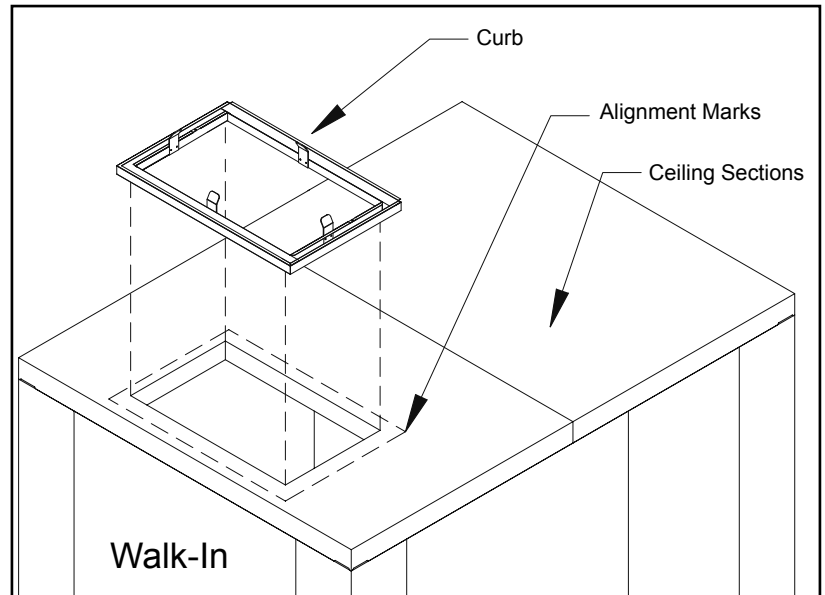

Figure 1
Carefully raise the entire refrigeration system and insert the projecting sleeve of the evaporator section into the opening of the walk-in wall. While supporting the system, lock it into position by turning the locks exactly as you did when locking the walk-in sections together. Make sure that the locks are positively engaged and insert the plug buttons into the lock access holes when finished. Refer to Figure 1.
No plumbing drain is required, under normal conditions, for indoor installations. A built-in hot gas vaporizer dissipates the condensate moisture automatically. In outdoor installations, the condensate should be plumbed to the nearest drain. Check local building codes. Outside drain lines must also be wrapped with a suitable heater wire if they are ever subjected to below freezing temperatures. Outdoor installations also require the attachment of the rain hood that will divert rainfall from the upper surface of the evaporator housing. See Figure 1 for an illustration.
2. Remove the paper from the gasket and position the curb, gasket side down, on the pencil line. Press down firmly. Note: Movement of the curb is very difficult after the gasket adheres to the ceiling section. Refer to Figure 1.